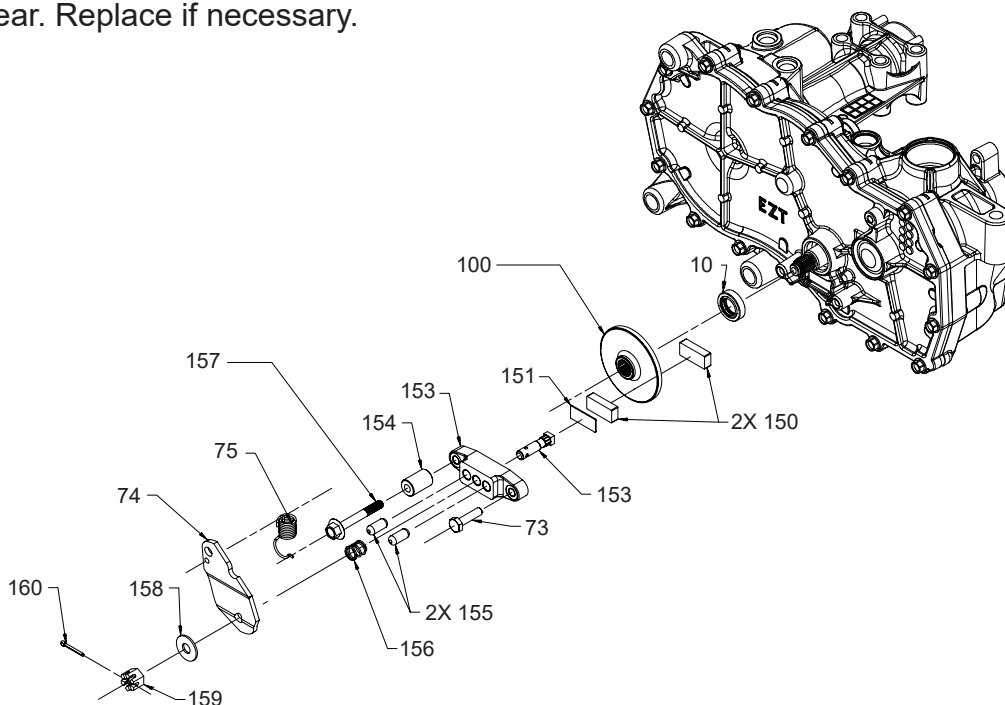

Figure 12. Disc Brake Assembly
Refer to Figure 12.
5. Remove the side housing screws (9) and belt deflector (144), if installed.
6. Pull the side housing (68), leaving the axle (49) and bull gear (46) assembled in the main housing. It may be necessary to use pry tools at the pry points to break loose the sealant (positions 1-16 and 4-6, Figure 12).
2. Install the locating pins (8), if not already installed.
3. Install the side housing (2). Use care not to smear the sealant bead.
4. Install the side housing screws (9) and belt deflector (144, if used). Refer to the screw tightening pattern in Figure 12 and torque specification in Table 8 on page 16.